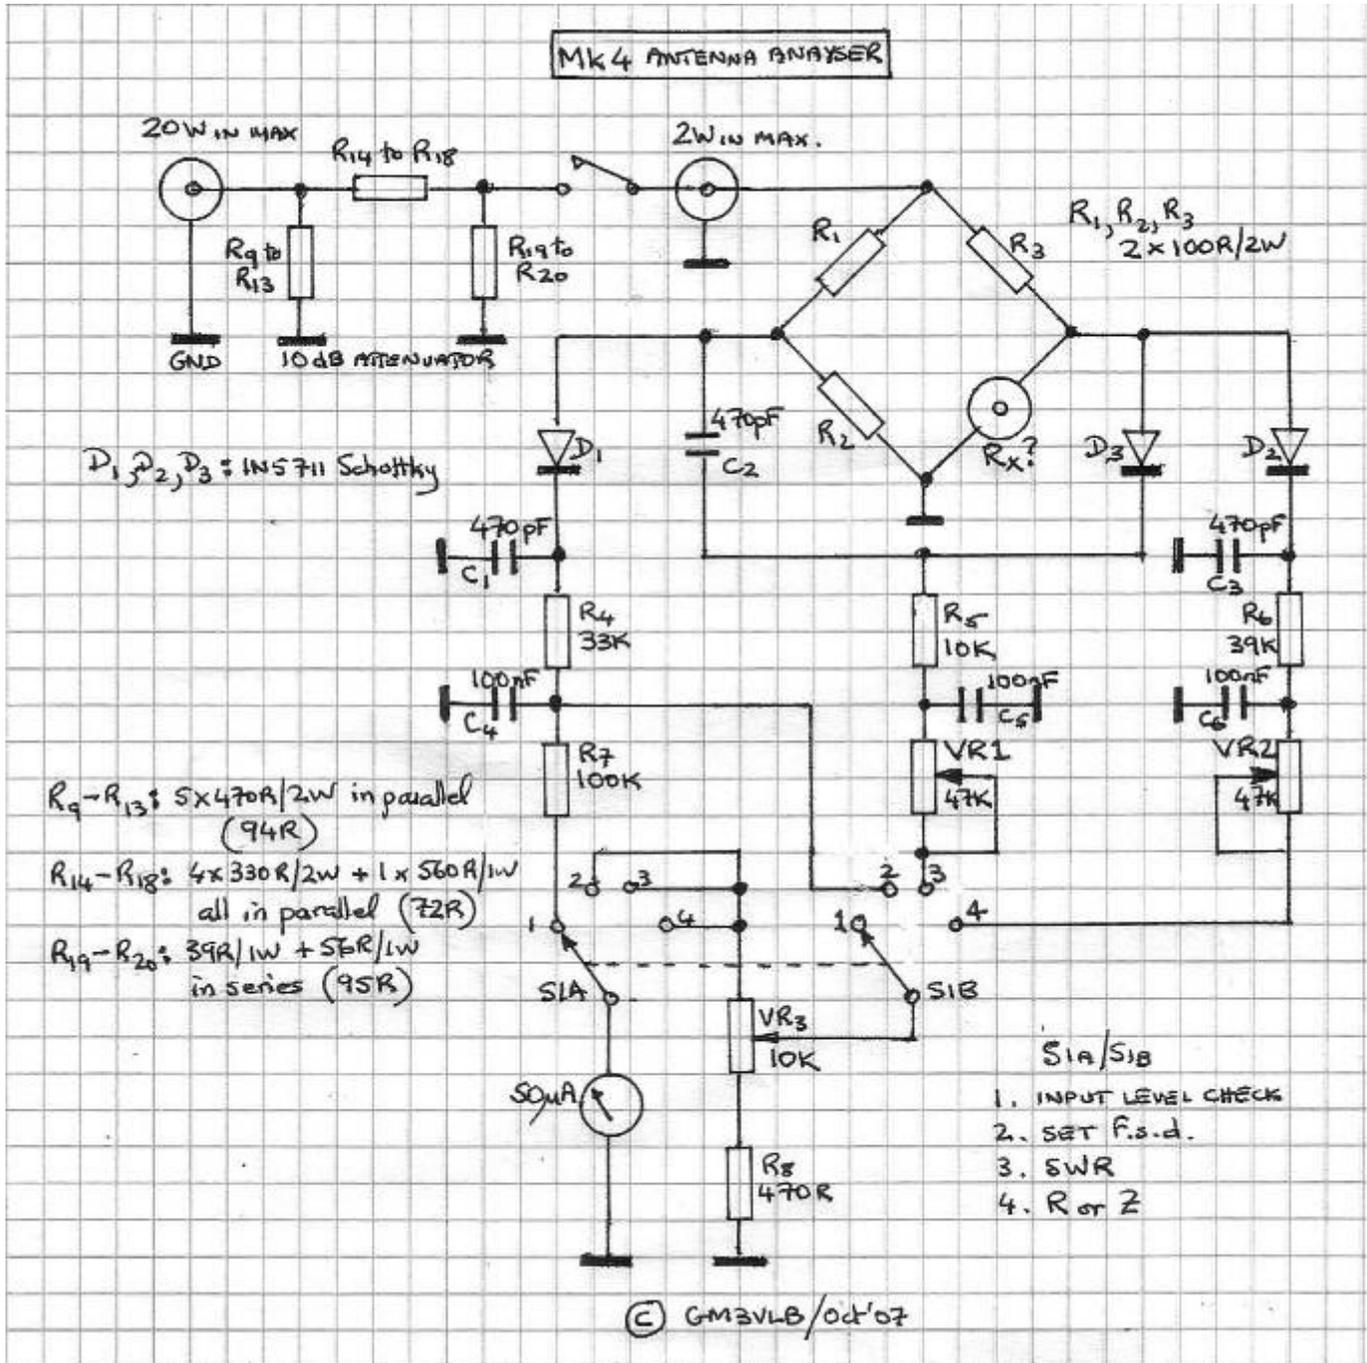
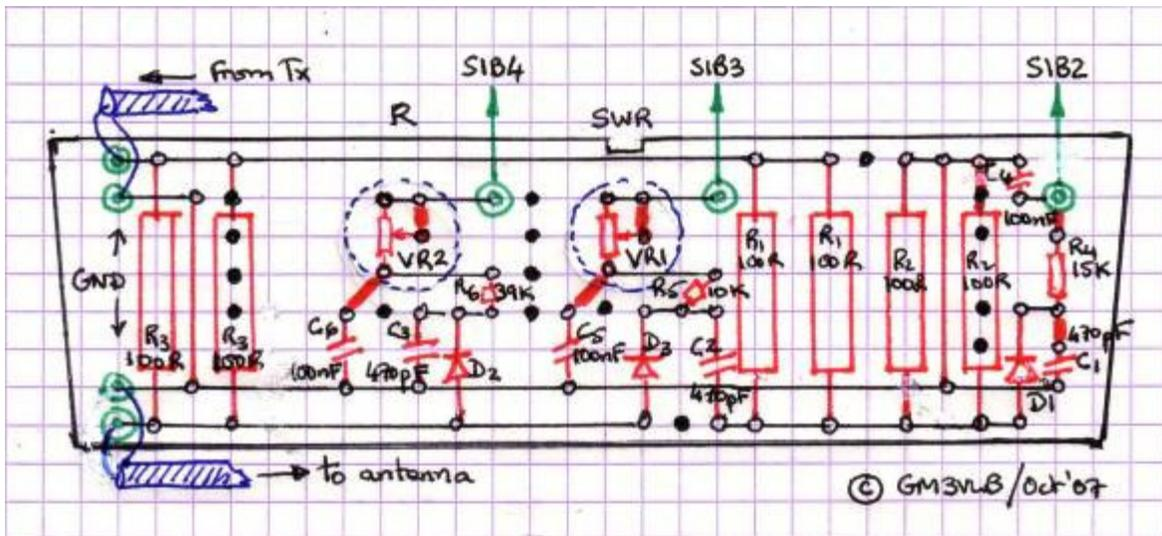
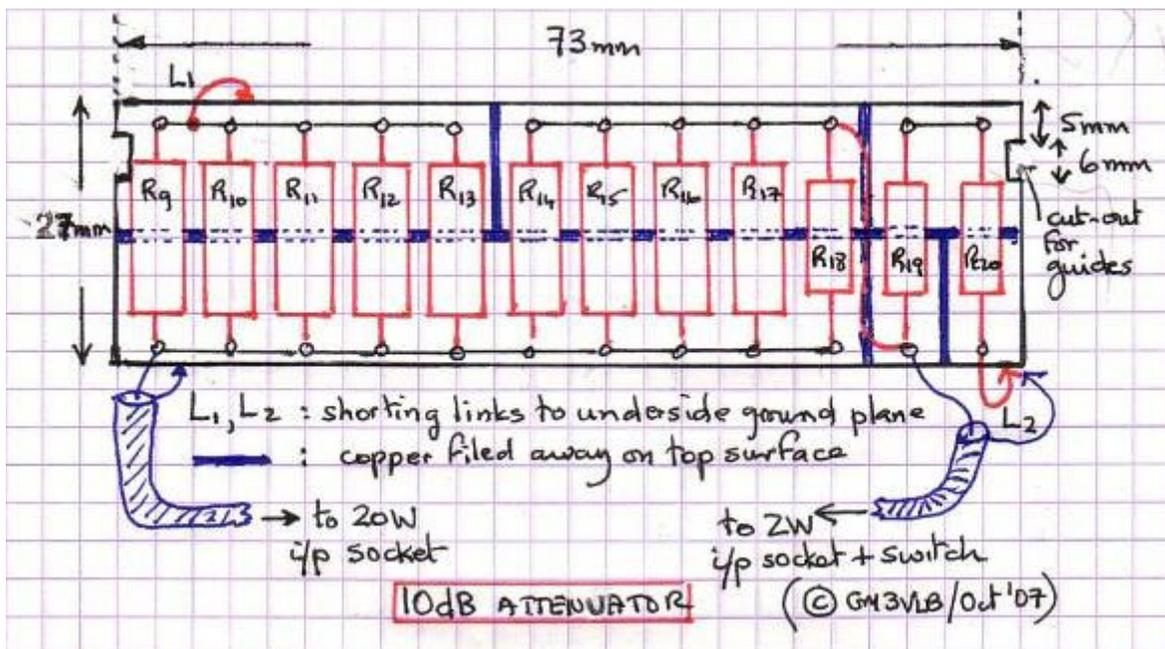

Fig.2
Fig.3
Fig.4
In the circuit diagram (Fig 2) below, resistors R9 to R20 form a Π -pad 10dB attenuator (2). Two inputs to the bridge are available. When the “HIGH” input (20W max.) is selected (transceiver input to “HIGH I/P” and switch closed), the signal passes to the bridge via the 10dB attenuator which reduces the power by a factor of 10. When the “LOW” input is used (2W max.), the signal is fed directly to the bridge.
Over many years managing ‘O’Level Electronics projects in schools, I developed (as mentioned in Part 1), my own “Veroboard” assembly method which has worked well for both simple and more complex projects. The layout of the main board is shown in Fig.3 below. A slight variation of the technique, using double-sided PCB was used for the construction of the 10dB attenuator (Fig.4).
A slight variation of this “Veroboard technique”, using double-sided PCB was used for the construction of the 10dB attenuator (Fig.4 below).
Those with basic skills such as the ability to use a soldering iron, identify different components on the relatively simple circuit diagram (Fig.2) and mount them on Veroboard (Fig.3 and Fig.4) or other preferred method, should have no problem constructing this “analyser”. If you are confident doing basic, repetitive calculations using a calculator, a more accurate method for producing the “SWR” and “R” scales is described in Part 3. It is not necessary to fully understand the preceding theoretical discussion – you can simply use **equation (4) for “SWR”** and **equation (6) for “R”** Either way, it should be possible to build this most useful instrument for under £20. All parts are readily available. One word of advice...avoid cheap, “VU-meter” type meters. It is possible to use them, but their non-linear scales cause additional, unnecessary complexity. Rallies are a good source of quality alternatives. I have *a few* brand new, military-quality linear Russian 50μA meters, complete with re-calibrated scales, available for **£15** (inc. P&P). Finally, for those who might perhaps wish a bit more understanding of “*how the thing works*”, I shall describe the theory behind this instrument in a bit more detail in Part 3.